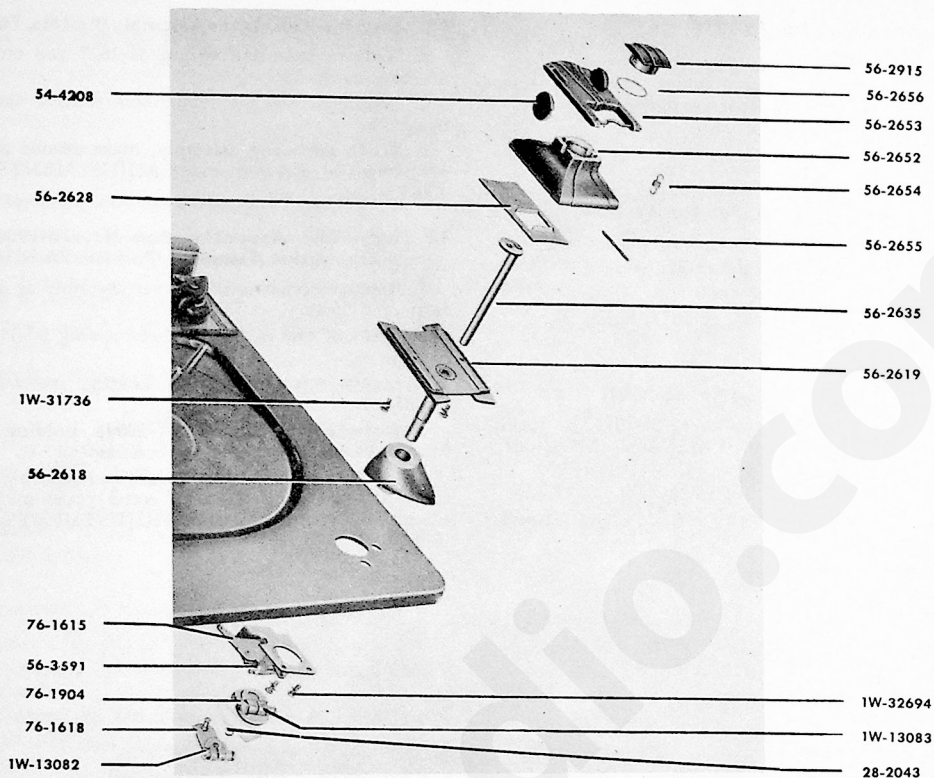

Figure 25—RECORD SHELF AND ASSOCIATED ASSEMBLIES, EXPLODED VIEW.
- a. Remove record-shelf cap cover 56-2915, by turning counterclockwise about $\frac{1}{8}$ turn and lifting out. See figure 25.
- b. Loosen screw 1W-13082 and remove assembly, figure 25.
c. Remove two screws, 1W-31736, figure 25, from underside of record shelf and lift out record-shelf-cap assembly.
b. Remove locking ring 28-2043, figure 25.